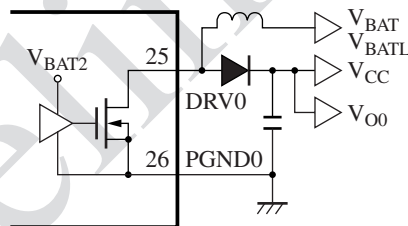

Figure 10
- (1) Output circuit is open drain configuration.
- (2) Exclusive-use for voltage step-up circuit
- (3) Output stage has built-in power MOSFET (N-ch.) and on-state resistance is  $1.2 \Omega$  (max.).
- (4) Exclusive-use for IC's internal power supply and the setting voltage is 5 V.
- The circuit block of ch.0 output part and the peripheral circuit example are shown in figure 10.